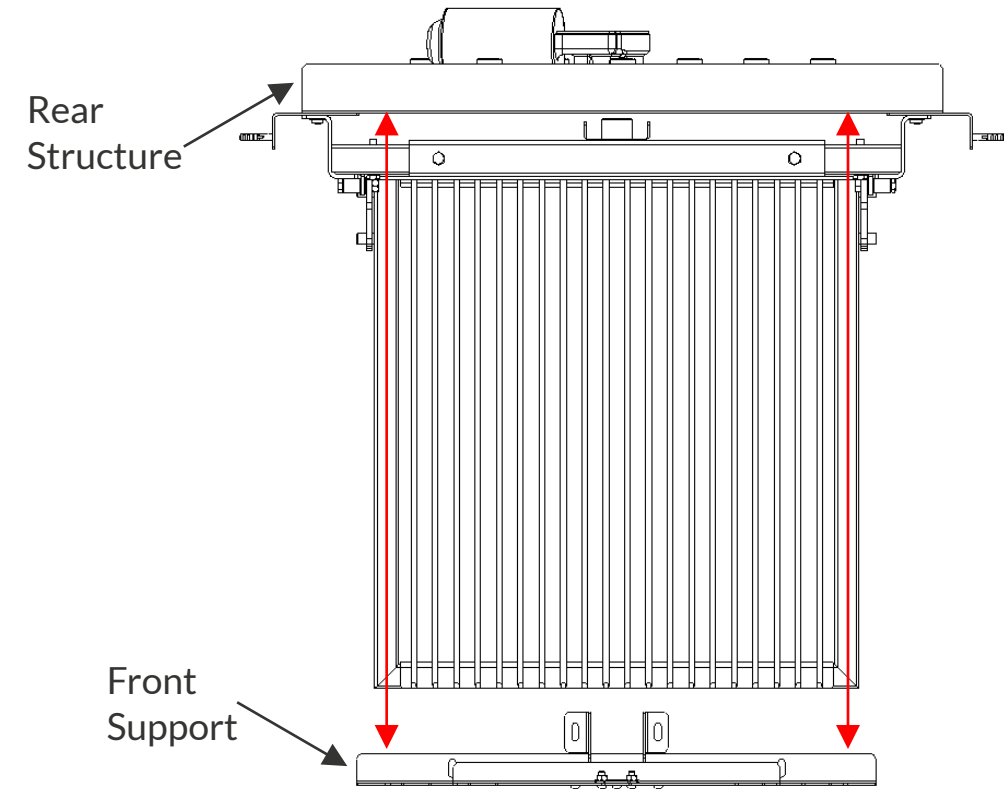

Figure 6 (upper view)
d) When installing the Front Support, responsible for holding the skewers, position it so that it is aligned and parallel with the rear skewer slots, keeping it centered on the front wall of your grill to avoid misalignment of the skewers. See Figure 6 beside.